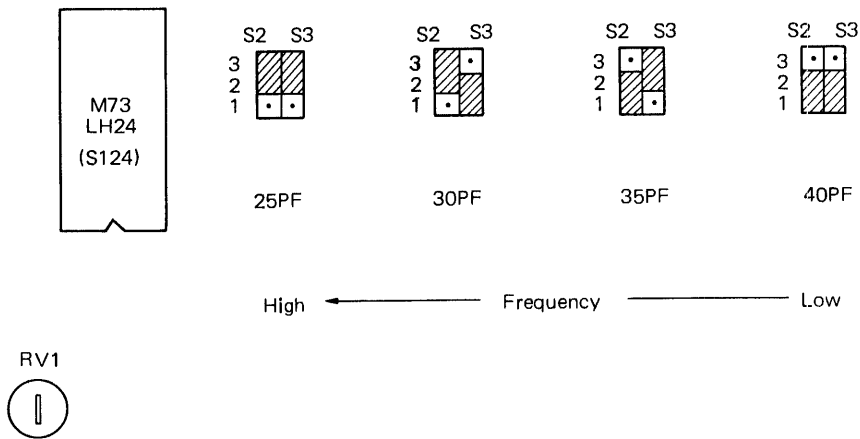

Figure 6-6-8 PLO Free-run Frequency Adjustment
8. Select the proper capacitance as shown in Figure 6-6-8 so that the frequency of TRM4-5 is closest to 1.229MHz as possible.